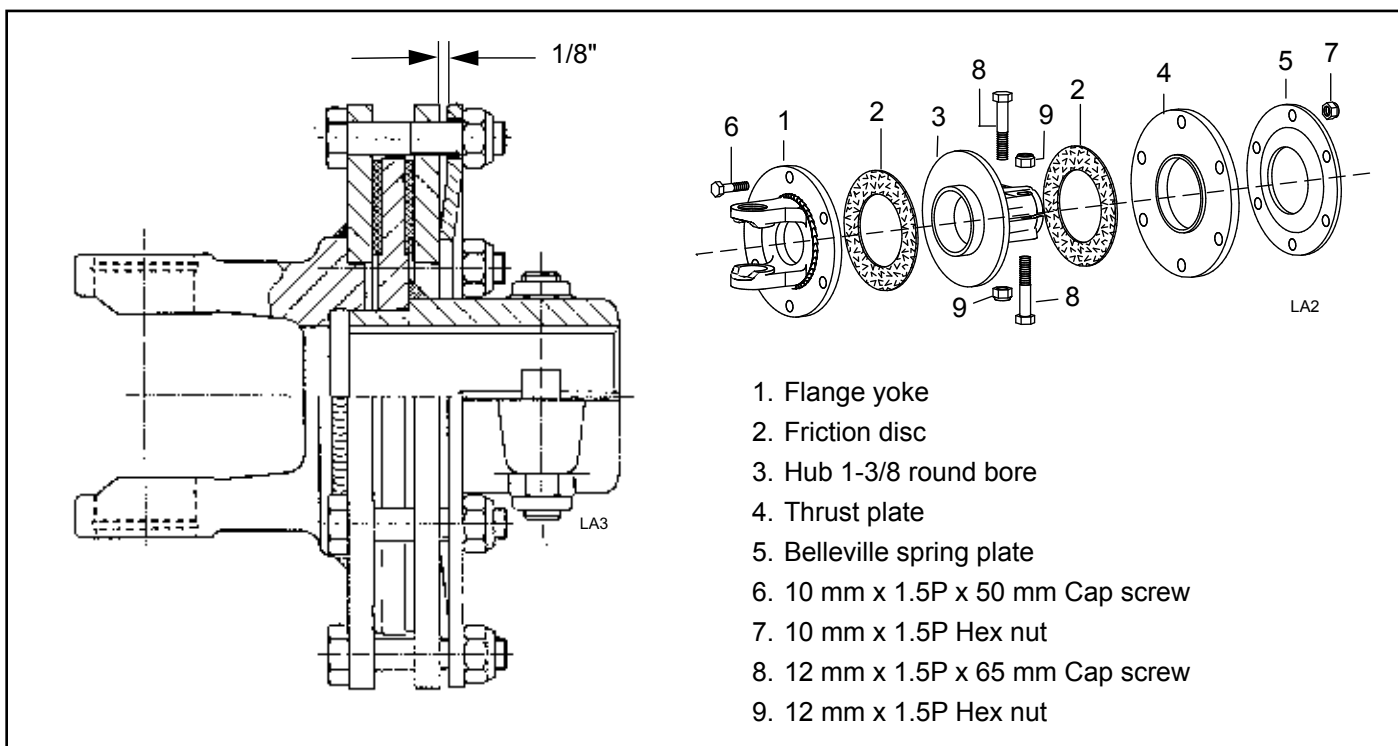

Figure 8. Slip Clutch Assembly
(FIGURE 8)
3. Loosen six 10 mm cap screws (6) to remove all tension from Belleville spring plate (5).
4. Hold clutch hub (3) solid and turn shaft to make sure clutch slips.
5. If clutch does not slip freely, disassemble and clean the thrust plate faces (4), flange yoke (1), and clutch hub (3).
7. Tighten Belleville spring (5) until it is against the thrust plate (4) of the clutch, and then back off each of the six nuts by 2 full revolutions. The gap between Belleville spring and thrust plate should be 1/8" as shown in Figure 8.
8. If a clutch continues to slip when the spring is compressed to 1/8" gap, check friction discs (2) for excessive wear. Discs are 1/8" when new. Replace discs after 1/16" wear. Minimum disc thickness is 1/16".